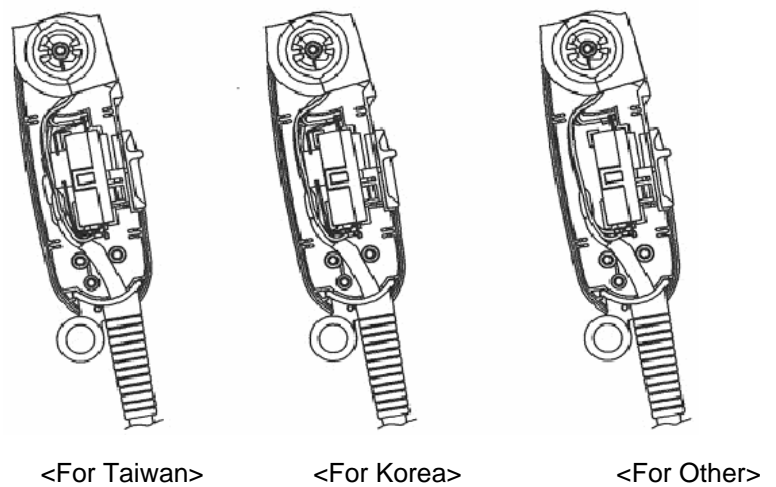

Figure 8
- (8) Install handle B, by make sure align all lead wire at right hand side of screw bush as shown in Figure 8.
(9) Install the Main switch plate, Main switch, Leadwire at the position as shown in Figure 8.
(10) Set power cord, bushing as shown in Figure 8.
(11) Install Capacitor (in case of Taiwan & Korea model) as shown in Figure 8.